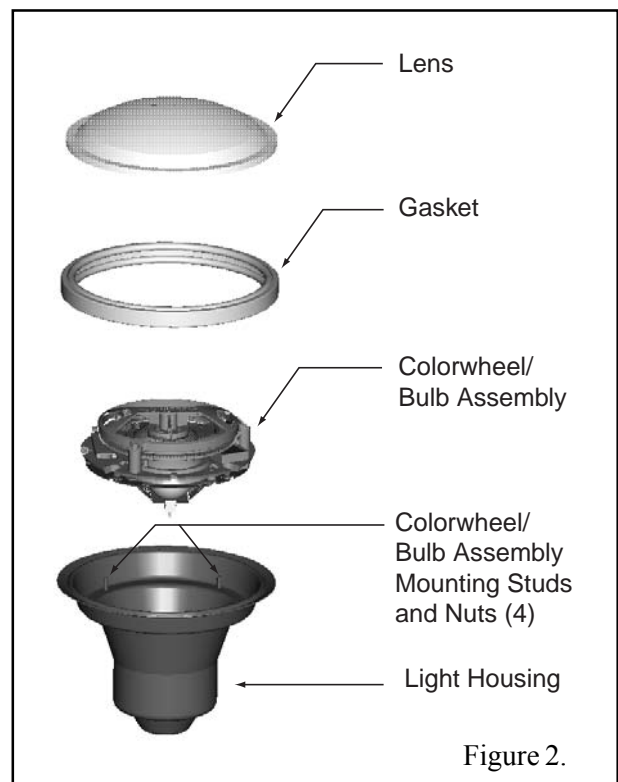

Figure 2.
## Section V. Replacing lamp's only, see Figure 2
2. With the light resting on its base, place lens/gasket assembly on light fixture and position so the white pointer on the color wheel/bulb assembly points to the "O" in the word "TOP" on the surface of the lens. See Figure 2.